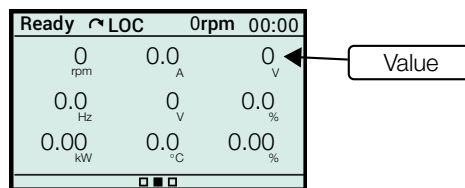

Figure 8.14: Slot visualization.
- Slot:** The HMI screen is divided into 9 parts called Slots and allows the display of reading variables in **value** format. Figure 8.14 shows a visualization example.